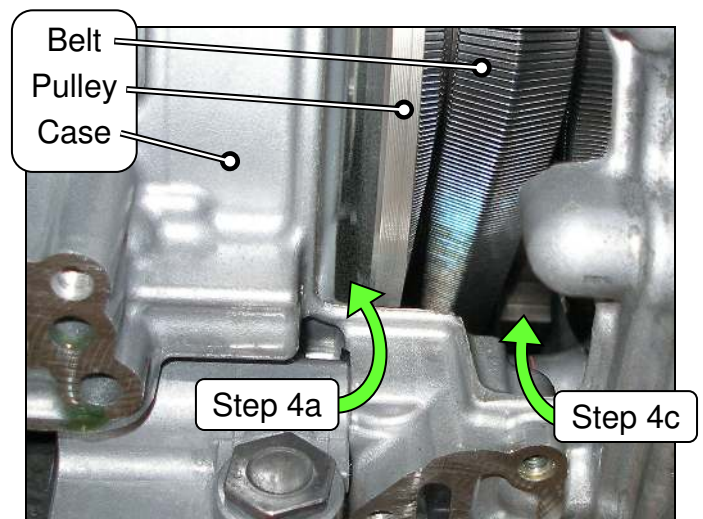

Figure 3
- a. Insert the camera lens between the CVT case and pulley where shown in Figures 3 and 4.
- Insert the lens approximately seven (7) inches, and then view the side of the belt that contacts the pulley.
- Insert the camera lens in the second location where shown in Figure 3 and 6, and then perform step 4b again.